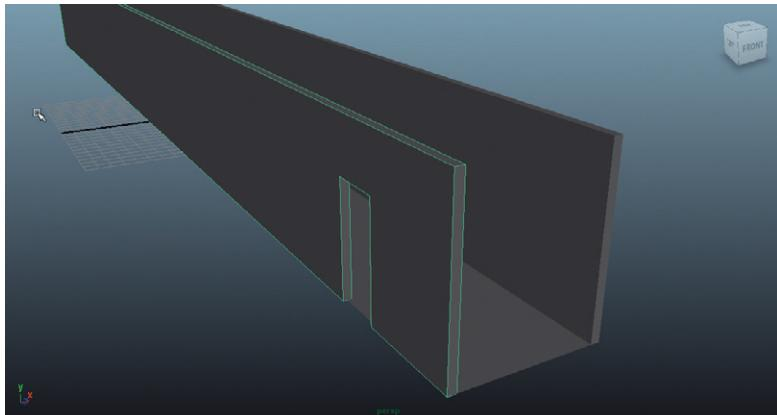

FIG 3.17 Results of the Boolean Difference.
Step 27: Perform the Boolean operation. Do this by selecting Polygons|Mesh > Booleans > Difference. The results should show up like Fig. 3.17.